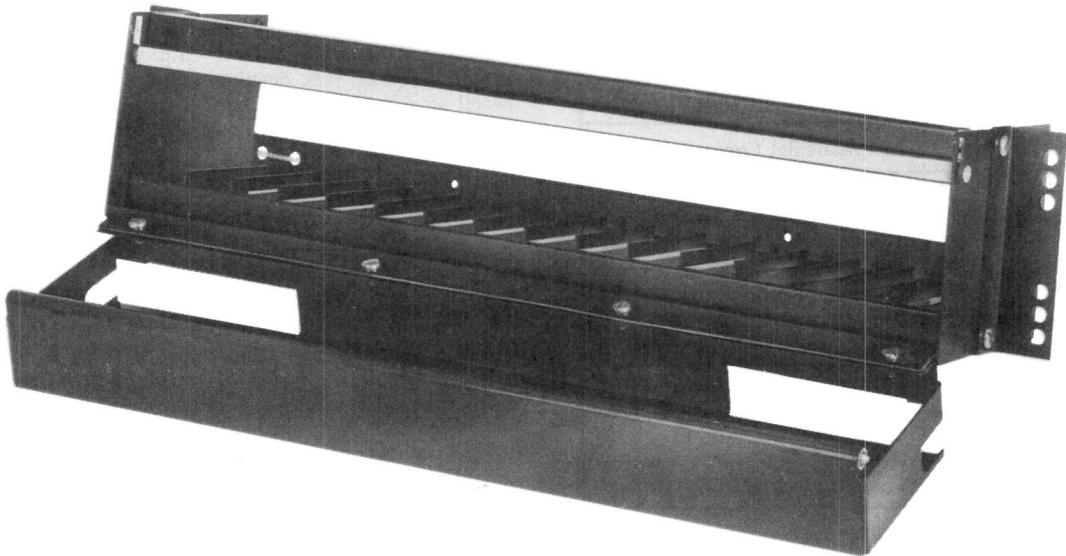

Fig. 13—103A Apparatus Mounting
3.07 Where several connecting blocks are to be installed in the same location, a 103A apparatus mounting may be used (Fig. 13).